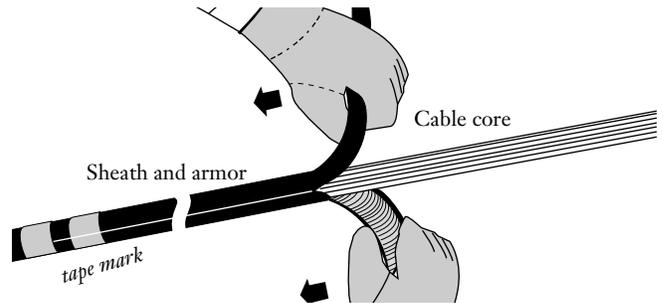

Figure 10
5.13 Starting at the end of the cable, pull (“banana peel”) the sheath and armor back over and away from the cable end, back to the Position 1 ring cut (Figure 10).